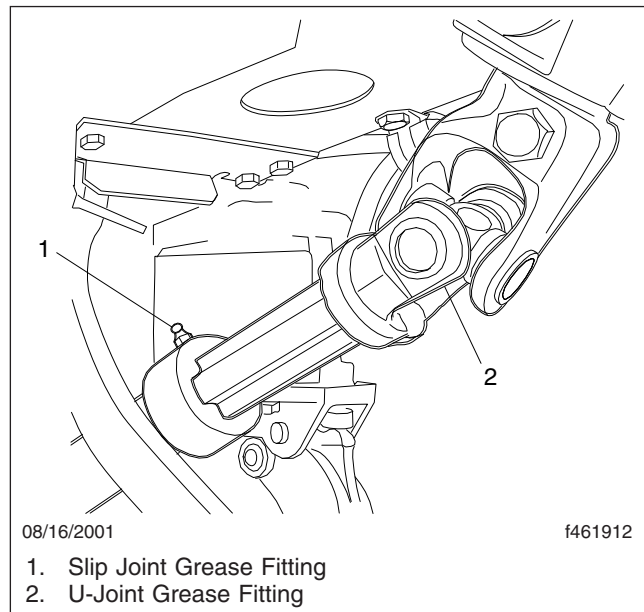

Fig. 6, Steering Shaft, Inside the Cab
6. Using a pressure gun, apply clean grease at both grease fittings until old grease is forced out of the seals. Use multipurpose chassis grease NLGI Grade 2 (8% 12-hydroxy lithium stearate grease) or NLGI Grade 1 (6% 12-hydroxy lithium stearate grease); Grade 2 is preferred. See Fig. 6.